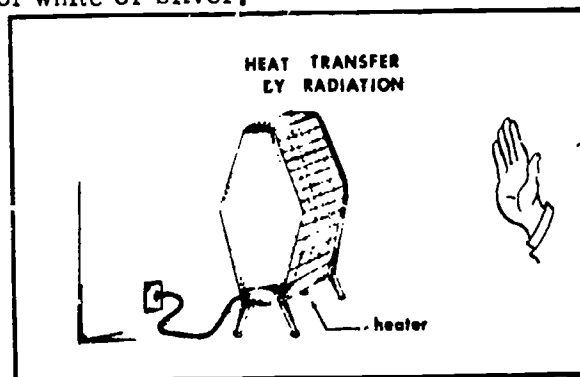

Fig 1-4. Heat transfer by radiation.
- (c) Radiation (fig 1-4). This is usually accomplished through use of heating coils and a reflecting surface. The heating coils will produce the heat and the reflecting surface will direct the heat toward a given area. Since dark colors usually absorb heat and light ones reflect it, heat transferred by radiation is usually provided with a background of white or silver.